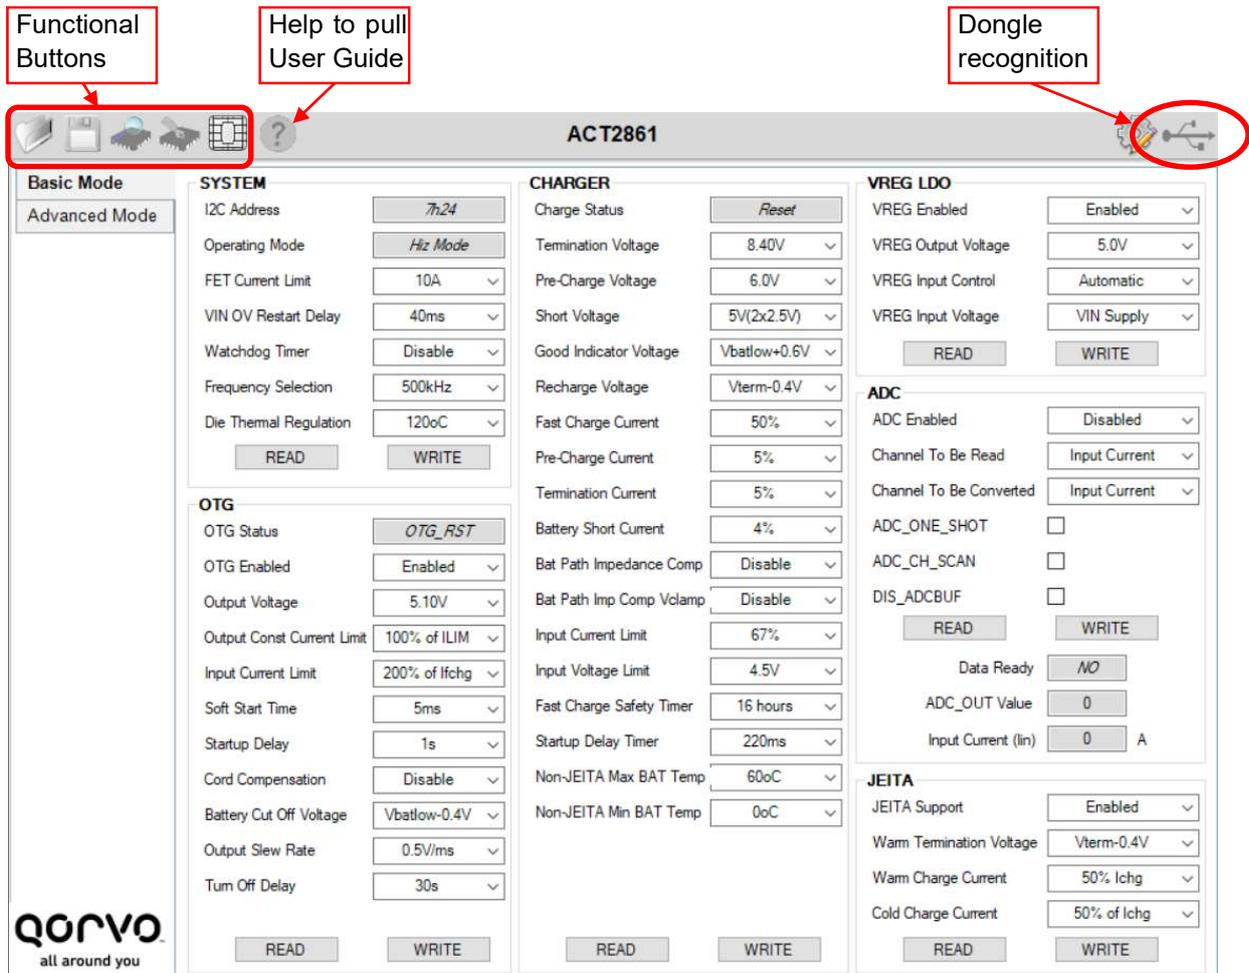

Figure 1: GUI in Basic Mode
3. Double click the "ACT2861 GUI Rev 2.3.exe" to Open the GUI. Below screen would show up, make sure the USB-to-I²C dongle is recognized by PC with status as below RED circle in **figure 1** below.